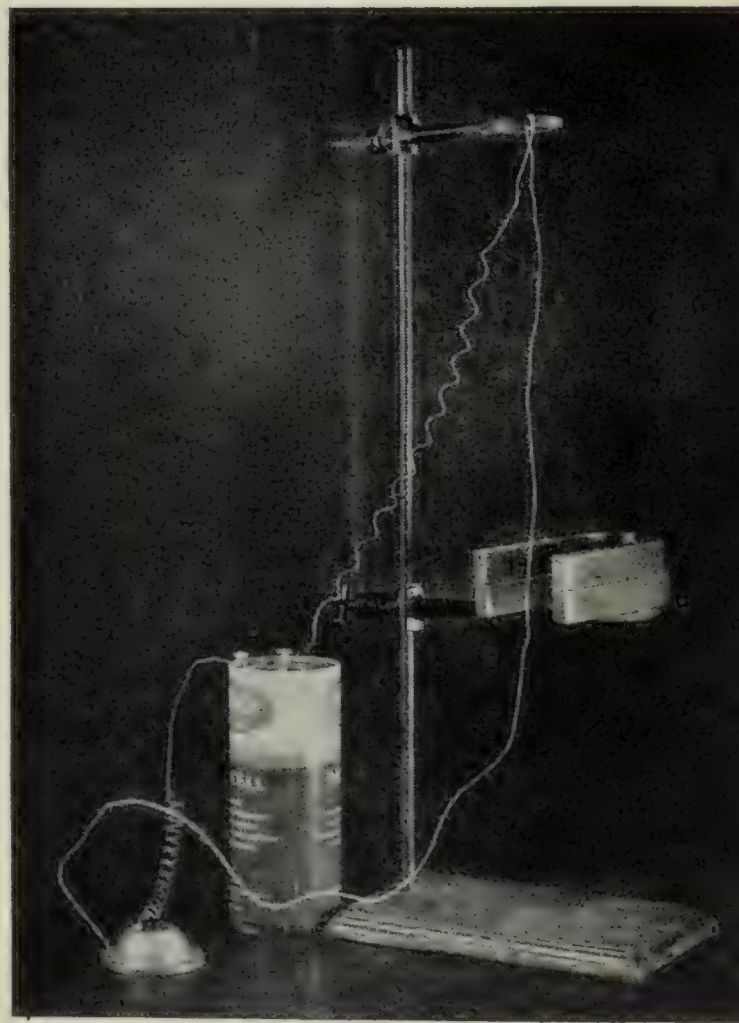

FIG. 410. Apparatus for Experiment 90
*Experiment 90. HOW DOES AN ELECTRIC WIRE MOVE IN A MAGNETIC FIELD?* (a) Arrange a strong U-magnet, a dry cell, a push-button, and a length of No. 30 insulated wire as shown in Figure 410. Be sure that the wire which hangs between the ends of the magnets is loose and free to move. Press the button. What does the wire near the magnet do? Release the button and repeat the experiment to make sure you were correct in what you decided about the action of the wire.